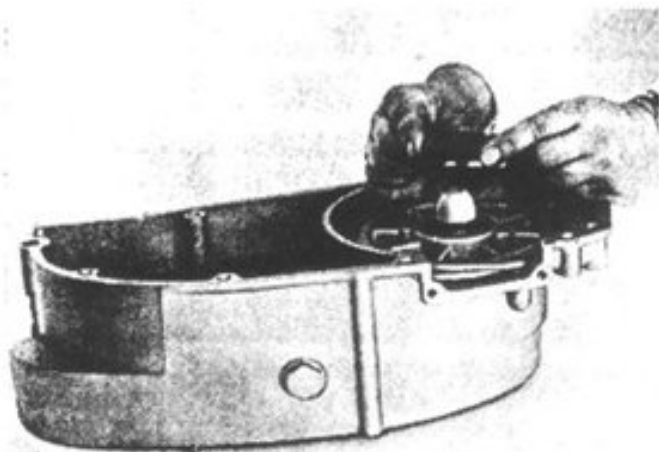

Fig. 35. Setting the ИЖ-Ю-3 motorcycle oil seal.
6. Set tip 2, Set No. 1, on the crankshaft half axle (Fig. 35) and place an oil seal on it; then